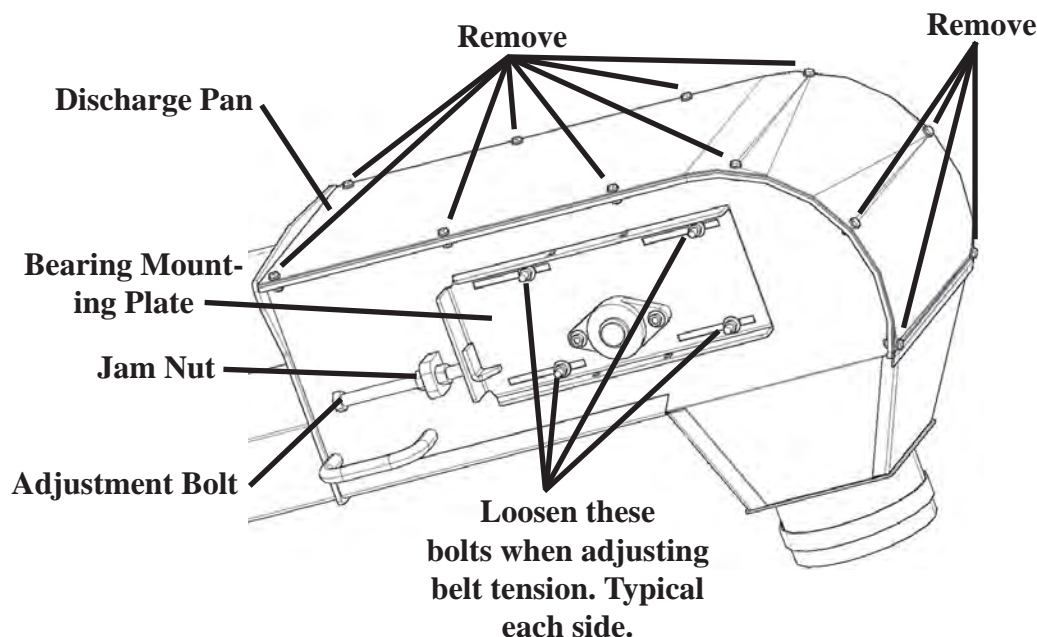

Figure 2.3
1. Remove the 12 bolts located at the discharge end (Figure 2.3).
1. Remove the head pan and head rubber discharge pan (Figure 2.3).
2. Loosen (Do Not Remove) the 4 bolts on the two bearing mounting plates located at the discharge end of the conveyor (Figure 2.3).
3. Loosen jam nut on adjustment bolt at discharge end (Figure 2.3).